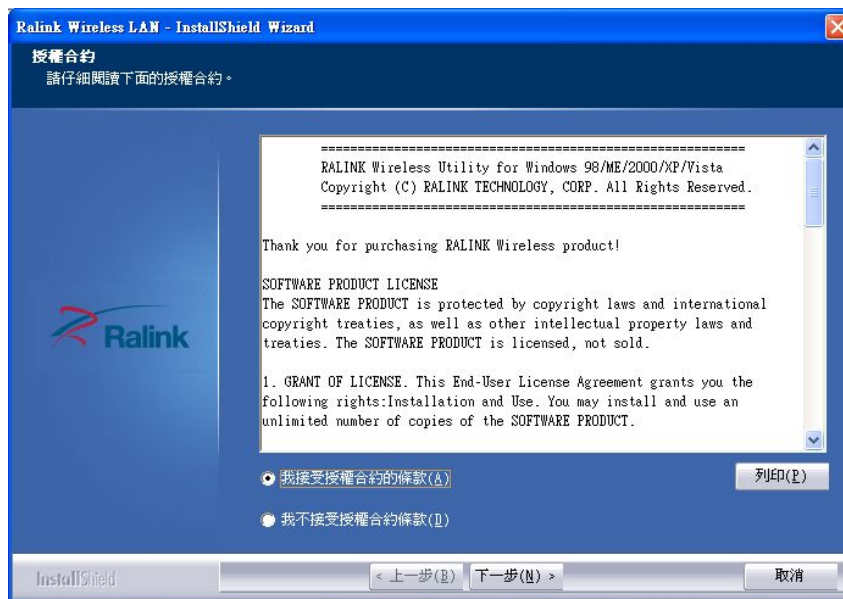

Figure 7-31: Wireless Driver License Agreement
Step 3: The license agreement in **Figure 7-31** appears.